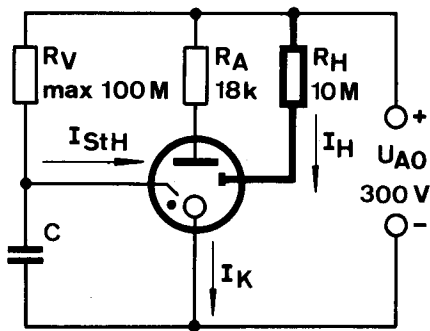

Fig. 3
The main range of applications covers timing circuits and circuits for the industrial electronics. Because of its high anode breakdown voltage (over 400 V), the GR 46 tube may be connected directly and without a transformer to a rectified and smoothed 220 V a.c. supply. Other remarkable features of this tube are its excellent starter breakdown voltage stability (typically $\pm 1\%$), minimal control current (less than $10^{-3} \mu\text{amp}$), unaffected by temperature fluctuations, and the wide temperature range in which it can operate. The GR 46 is so designed that the anode circuit can be supplied with direct voltage, and operation is assured with a positive starter. The starter striking voltage reaches its highest stability only if there is no negative starter current I_{St} (see Fig. 3 and 4).
3) The auxiliary anode (H) is connected if extremely short ignition times are needed (Fig. 3).